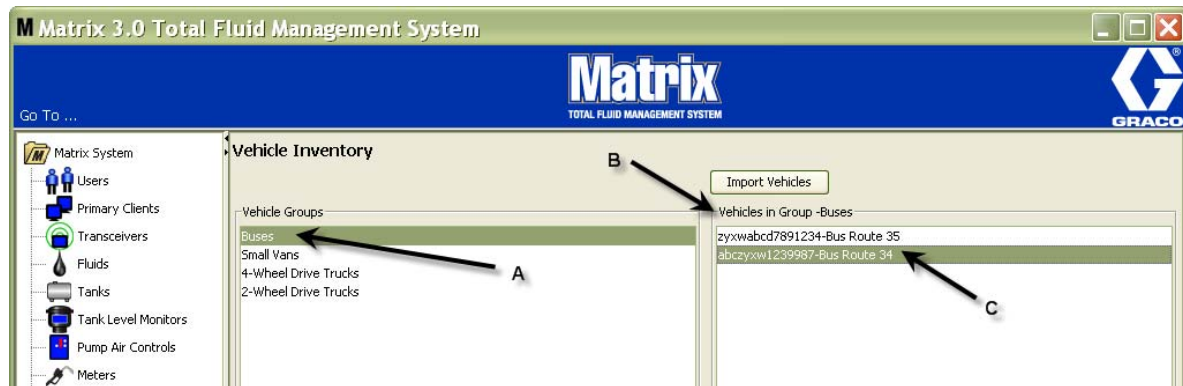

FIG. 173
7. The vehicles will only be displayed on the main Vehicle Inventory Screen when the specific group it is associated with is highlighted. In the example provided in FIG. 173 the Vehicle Group Buses is highlighted (A). Notice that the Group Name “Buses” has been added at the end of the Vehicles in Group column title (B) and the list displayed in that column only contains the Buses that are in the fleet (C)
Sections A, B, and C in FIG. 176 correspond to Sections A, B, and C in FIG. 173.